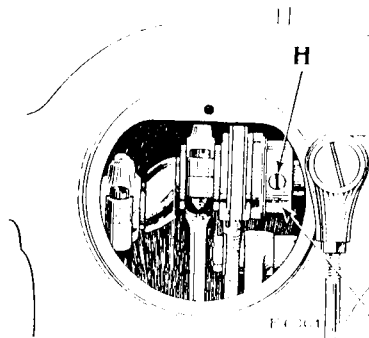

FIG. 19. ADJUSTMENT FOR TIMING FEEDING MECHANISM
When it is necessary to time the feeding mechanism, press the stitch regulator (C, Fig. 2, page 4) down to its lowest point for the longest stitch and turn up the round cover plate at the back of the machine. Loosen the feed eccentric set screw (H, Fig. 19) and turn the feed eccentric (J, Fig. 19) until the feed is correctly timed as instructed above, then securely tighten the set screw (H).